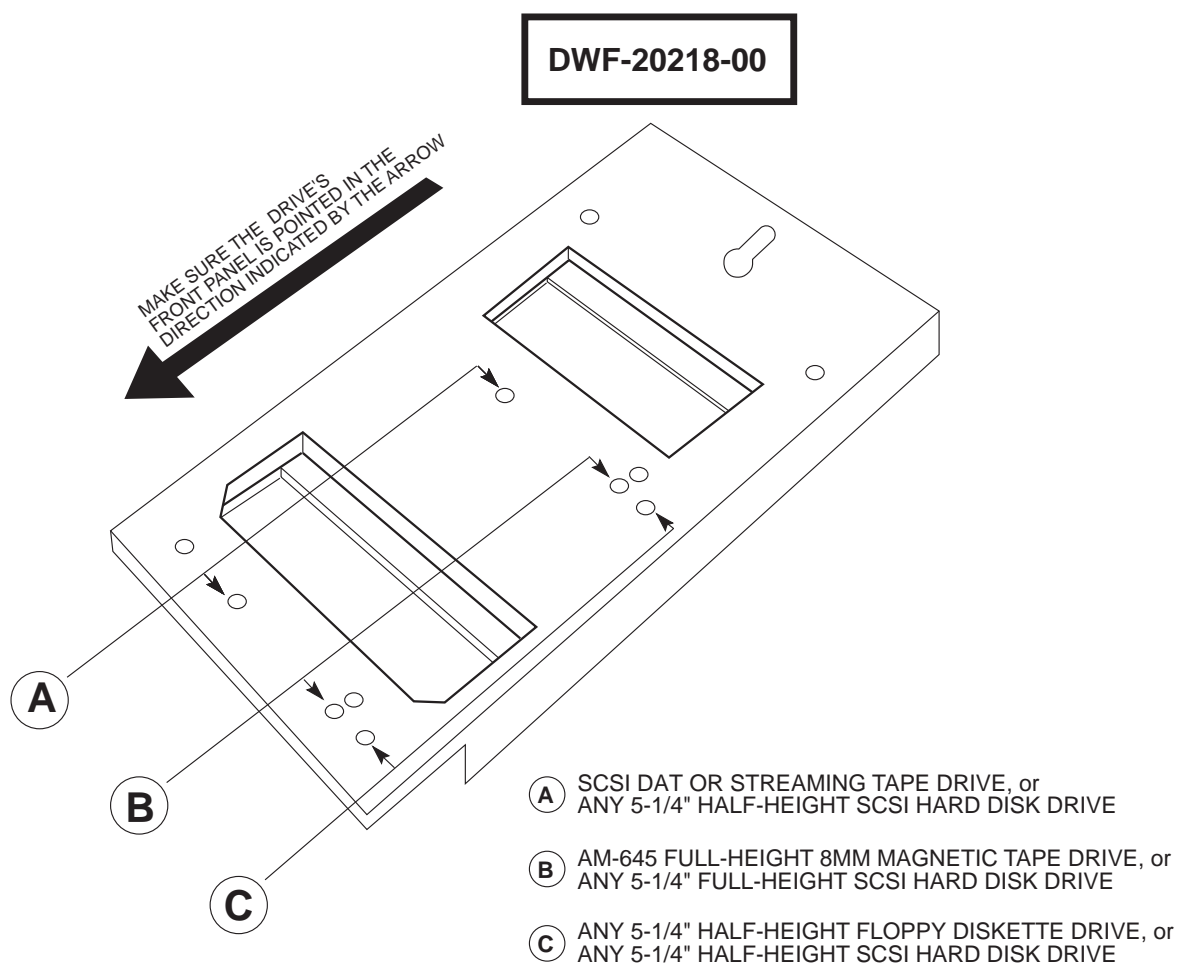

Figure 4 - Plastic Mounting Base
2. The AM-65X has a number of mounting screw holes on its side. There are corresponding holes in the plastic mounting base. Align the screw holes on the drive with the designated holes in the mounting base (marked as A in Figure 4). Make sure the drive's front panel is pointed in the direction indicated by the large arrow.